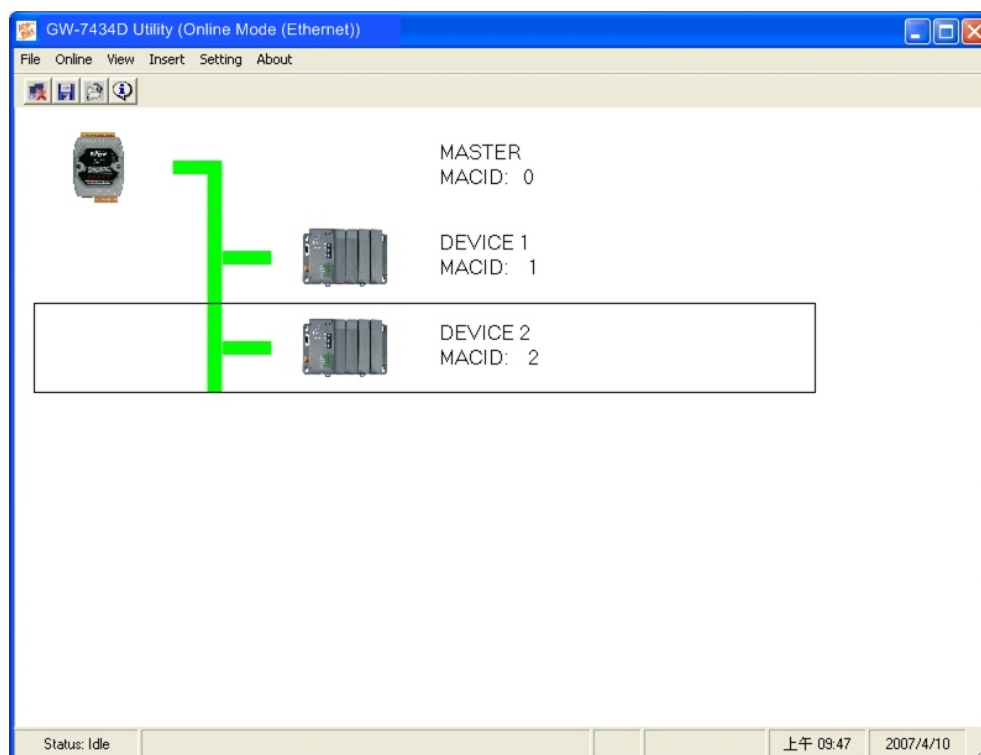

Figure 5-23: Start to monitor the connection status of each device
2. After pressing “OK” button to finish the setting of all actual devices, Utility tool will save all setting into GW-7434D’s EEPROM and GW-7434D start to communicate with these devices automatically. Then the GW-7434D Utility tool will display each configured device’s connection status on the main frame and update the device connection information per 0.8 second. As shown in figure 5-23.